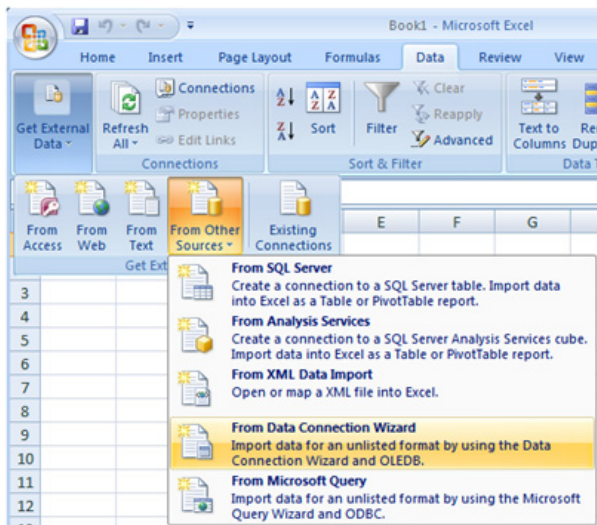
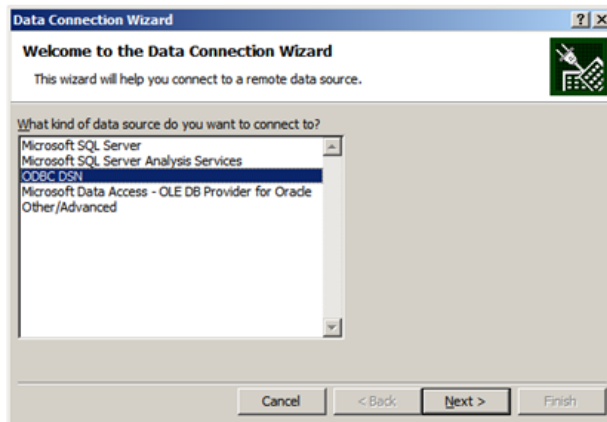

Figure 23. Excel - From Data Connection Wizard command
Figure 24. Data Connection Wizard
1. Open MS Excel. From the **Data** tab, select **Get External Data > From Other Sources > From Data Connection Wizard** as shown in Figure 23. The **Data Connection Wizard** appears as shown in Figure 24